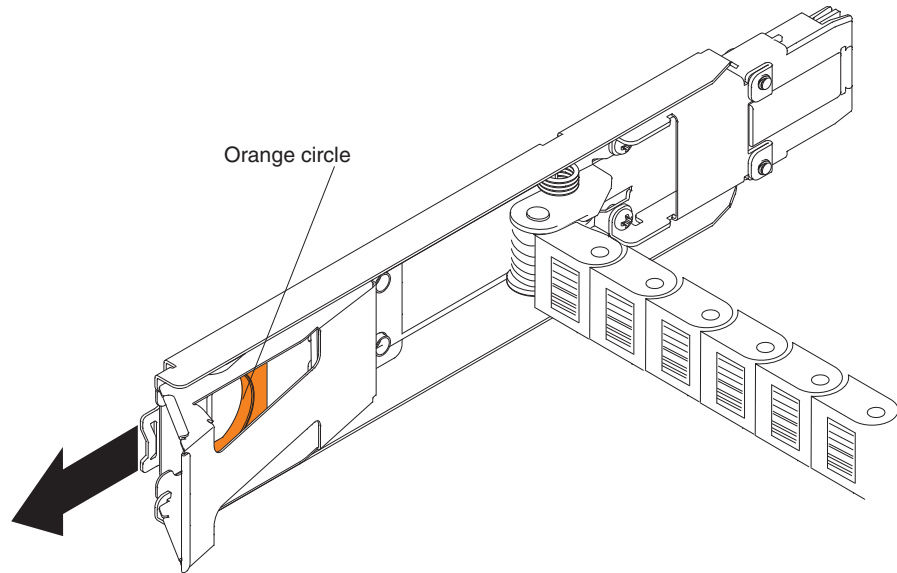

Figure 90. Vertical mounting bracket that connects to the midplane
- a. Disconnect the right cable chain mounting bracket from the midplane. Hold the orange handle (See Figure 90 on page 141) and pull the mounting bracket out of the storage expansion enclosure. If necessary, use a flashlight to locate the orange circle.